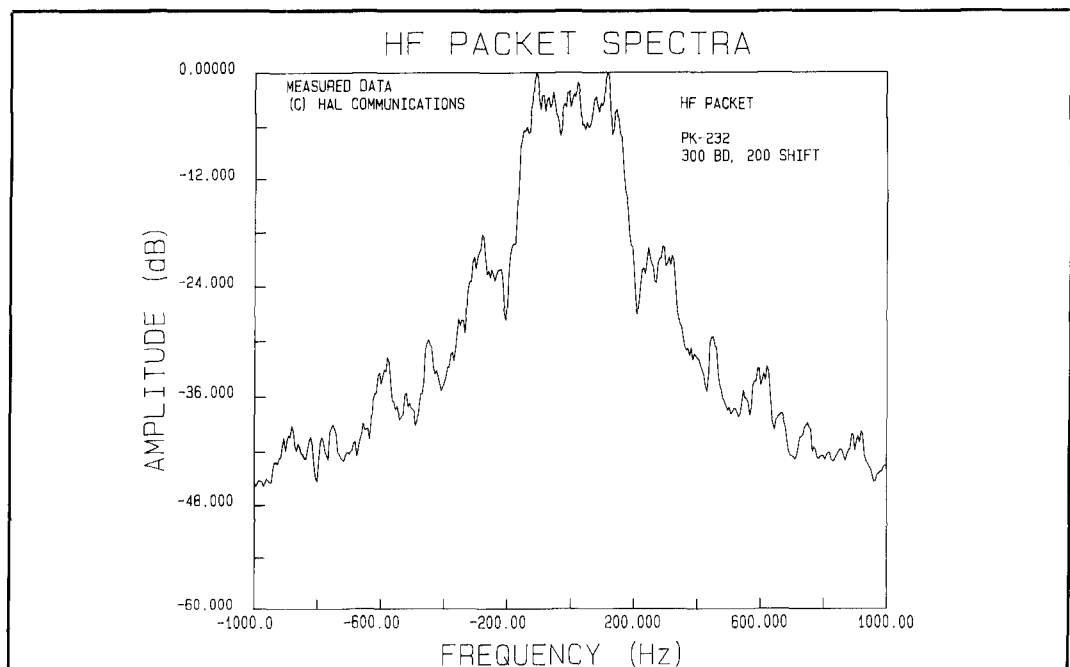

Figure 3. HF packet spectra.
HF packet radio at 300 baud, 200 Hz shift is very spectrum inefficient. **Figure 3*** shows the measured spectrum of an HF packet modulator (PK-232). The “gentlemen’s agreement” is that all HF packet stations must be spaced by at least 2 kHz to avoid mutual interference. This interference is caused by the wide bandwidth of the modulation sidebands themselves and the poor selectivity requirements forced on the receive modem by the FSK modulation format (300 baud/200 Hz shift). Two AMTOR stations can operate without interference in the spectrum required for one HF packet station. As we shall see, CLOVER allows four stations to operate in the same bandwidth as an HF packet signal.
*The spectra shown in **Figure 3** is a plot of measured data taken from the audio output of an AEA PK-232 operating in HF packet mode with 300 baud data and a shift of 200 Hz (tones = 2110/2310 Hz). The data has been numerically shifted to show 0 Hz as the center frequency and 0 dB as the maximum peak amplitude. The measurement device was a Hewlett-Packard Model HP-3561A Dynamic Signal Analyzer.